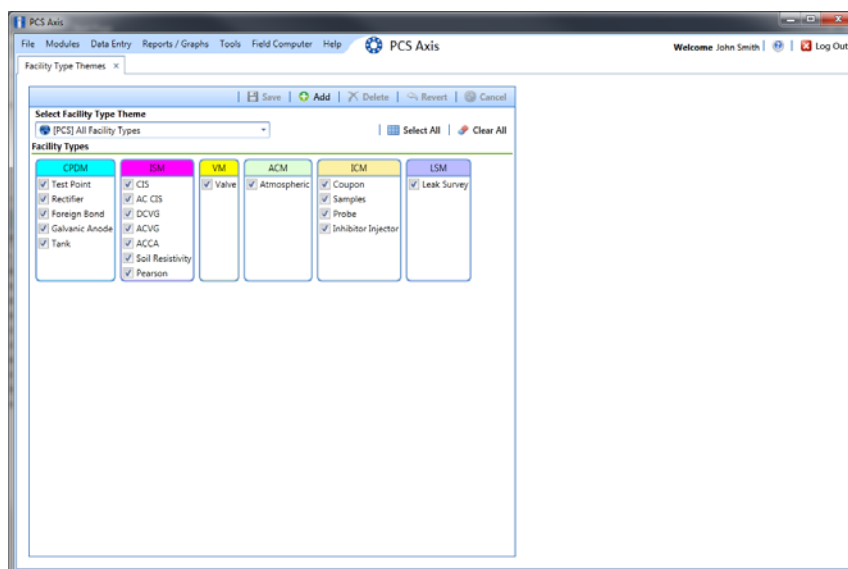

Figure 13-6. Facility Type Themes Management
- 1 If the *Facility Type Themes* window is not open, click **Tools > Facility Type Themes** (Figure 13-6).